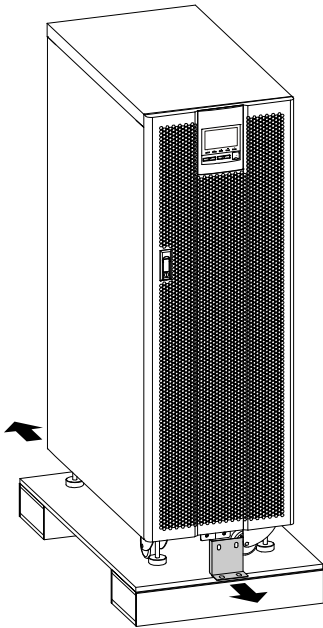

Figure3-5 Remove bottom supporting plates
Step 5 Dismantle the 4 fasten bolts of bottom supporting plate and UPS, and 4 fasten bolts of wooden bracket and bottom supporting plate, and then, remove the supporting plates, as shown in Figure3-5.